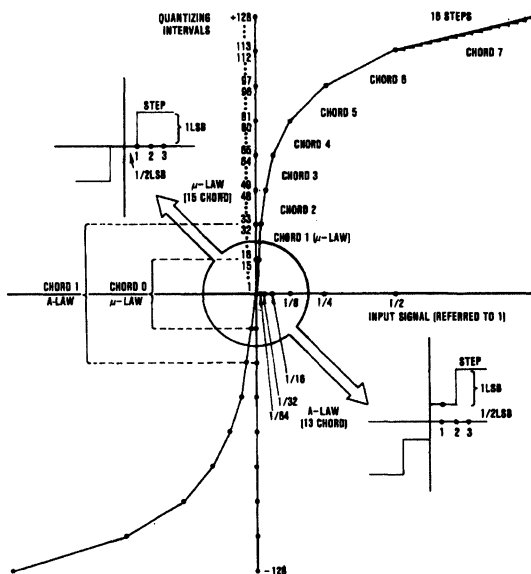

FIGURE 2.
The PCM CODEC performs this non-uniform or non-linear quantization through μ -Law or A-law companding characteristics shown in Figure 2. This process enhances lower amplitude signals, to allow them to compete with system noise, and attenuates higher amplitude signals, preventing them from saturating the system. This form of signal compression results in a relatively uniform input signal to quantization noise ratio, approaching 40dB for a wide range of input amplitudes. Also, the dynamic range approaches that of a 13(11) bit A/D or 80(66)dB for μ -Law (A-Law) companding. The digital realization of this companding process is obtained by a segment and chord piecewise linear approximation to a semi-logarithmic function.